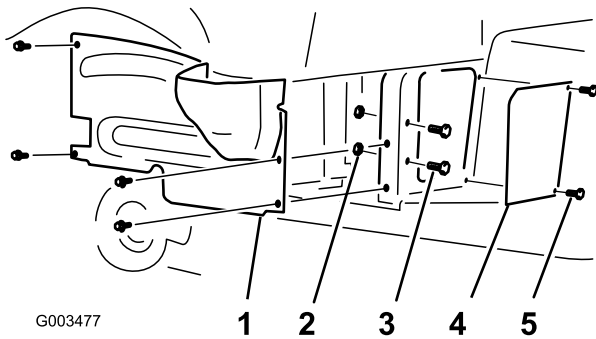

Figure 1
- Remove the 4 flange-head screws securing the right-hand wheel shroud to the frame (Figure 1). Remove and retain the shroud.
- Remove the 2 screws and 2 bolts securing the screen panel to the frame (Figure 1). Remove and retain the screen panel.